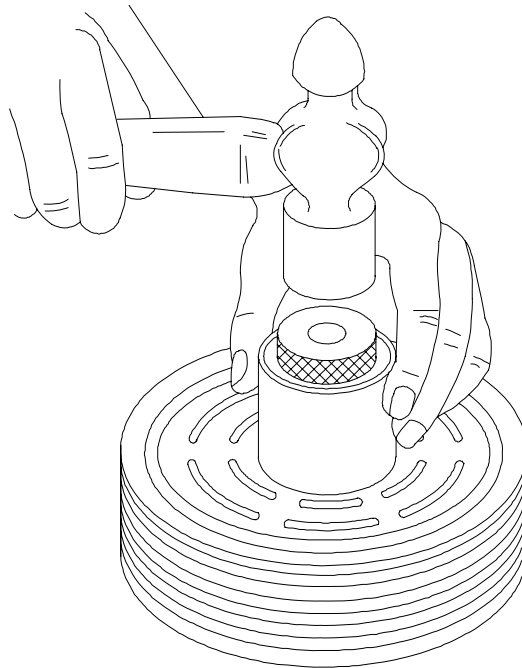

Figure 17 Rotor Assembly Installation
47. **Rotor Assembly Installation.** To install the rotor assembly, proceed as follows (refer Figure 17):